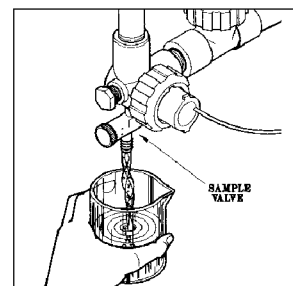

FIGURE 10
3. Obtain a sample of system water and test the sample with a reliable, calibrated tester (see figs. 10 and 11.) Make note of reading.
2. Obtain a sample of system water and test the sample with a reliable, calibrated tester (see figs. 10 and 11, pg. 23). Make a note of the reading.
4. Remove sensor. If required, clean in accordance with instructions on page 50. Dry the stainless steel electrode surface for a value of zero (0) to enter as the “LOW” calibration point in the following steps.
1. Obtain a sample of system water and test the sample with a reliable, calibrated pH tester (see figs. 10 and 11, pg. 23). Make note of reading.